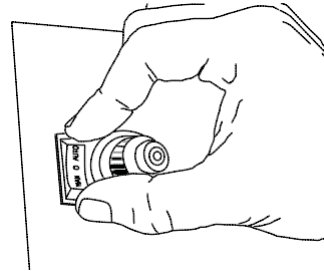

Figure 16 - Installing Rocker Switch
17. Push the rocker switch into the control panel (see Figure 16).